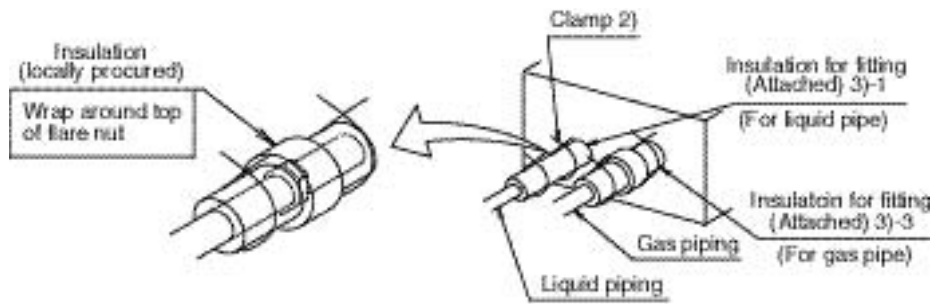

Fig. 3
- Piping connections should be checked for gas leaks and then, referring to Fig. 3, insulated using the included joint insulating material 3) on all liquid and gas pipes (a total of 5 locations) (Tighten both edges with clamp 2.) Use the included joint insulating material.
- (1) construction material: Phosphoric acid deoxidized seamless copper for refrigerant.
- (2) size: Determine the proper size referring to chapter “SELECTION OF PIPE CONNECTION SIZE”
- (3) The wall thickness of the refrigerant piping should comply with relevant local and national regulations.